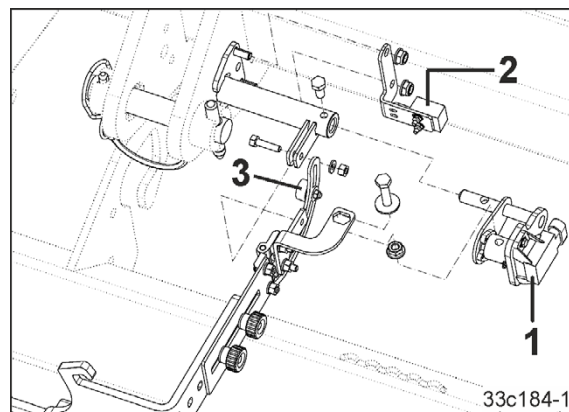

Fig. 50
- Analogue working position sensor (Fig. 50/1) for an implement combination with ISOBUS system
- Working position sensor (Fig. 50/2) for seed tube monitoring with adjustment magnet (Fig. 50/3).